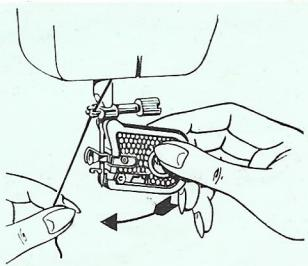

Fig. 5a
- Place thread as shown in Fig. 5a, so that its hook passes through needle eye.